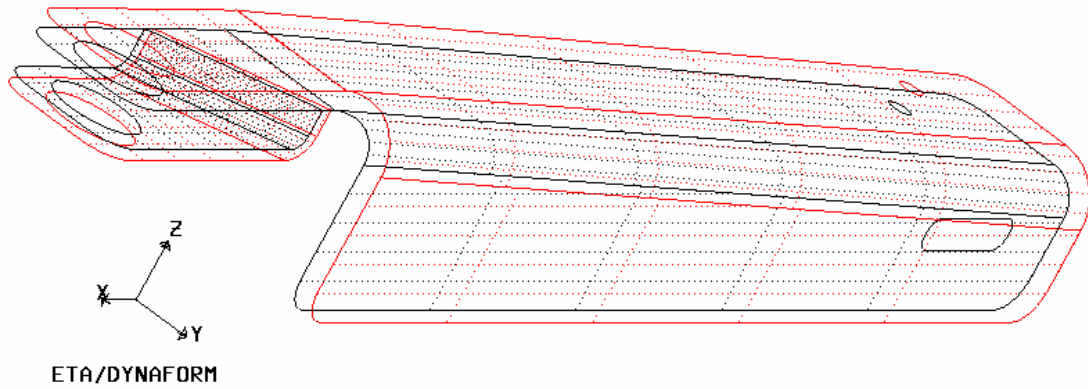

Figure 5.6.13 Grouped and Added Top Surfaces
4. The program groups the surfaces for the top faces. If the result is not perfect, Select ADD TOP SURFACE or REMOVE TOP SURFACE to adjust the result. In this instance, three surfaces are added to the top surface group. The result is seen in Figure 5.6.13.
6. This program groups the surfaces for the top face. If the result is not perfect, use ADD TOP SURFACE or REMOVE TOP SURFACE to adjust the result. In this case, three surfaces must be added to the top surface group. The result is shown in Figure 5.6.13